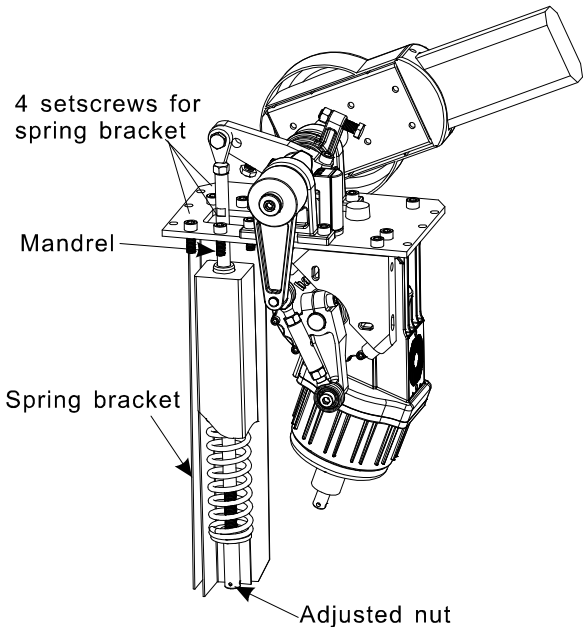

Fig. 10
- (B) Spring installation
- (C) Spring replacement
- (C-d) Loosen 4 setscrews to take off the spring sleeve for changing the new spring. (Refer to Fig. 10)